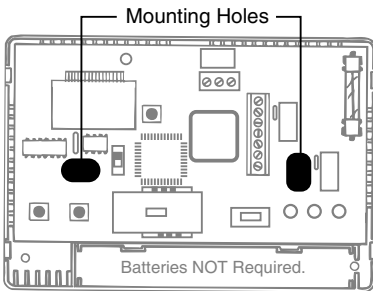

Figure 3
6. Mark placement of mounting holes. See Figure 3.